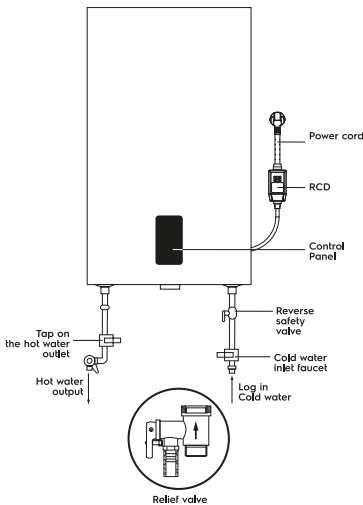

Fig. 1
- A safety check valve should be installed at the cold water inlet (see Fig. 1).